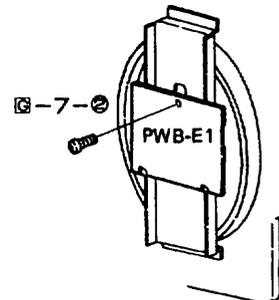

Figure 6-4
- ① Remove the player mechanism in the same way as in "D REMOVAL OF PLAYER MECHANISM."
- ② Remove a screw at the microcomputer P.W.B. shown in Fig. 6-4, and take the P.W.B. off.